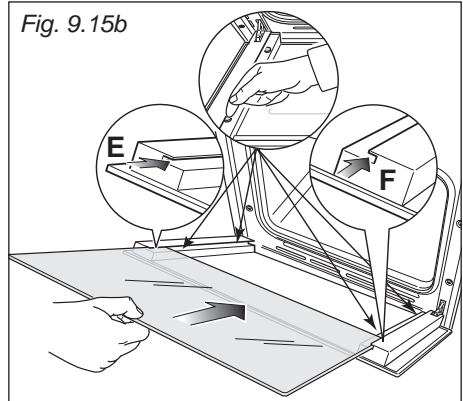
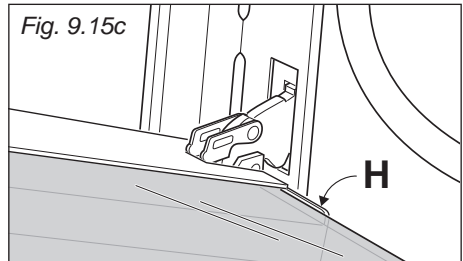

Fig. 9.15b
Fig. 9.15c
**IMPORTANT:** It is advisable, while refitting the glass, to keep pressed in position the four rubber pads "D", by a finger, to avoid breakage or slippage of the rubber pads themselves (fig. 9.15b).
- Insert the pane in the left "E" and right "F" slide guides (fig. 9.15b), and gently slide it to the retainers "H" (fig. 9.15c).